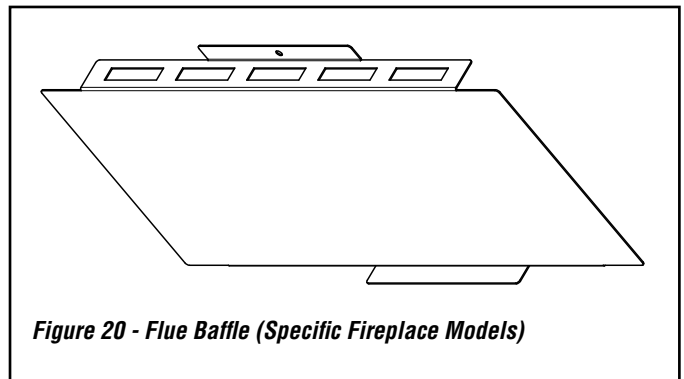

Figure 20 - Flue Baffle (Specific Fireplace Models)
- 10.2 Specific fireplace models have a **flue baffle** (*Figure 20*) located directly below the restrictor plates and flue pipe exhaust inside the top of the firebox. If installed, temporarily remove the baffle to access the restrictor plates.